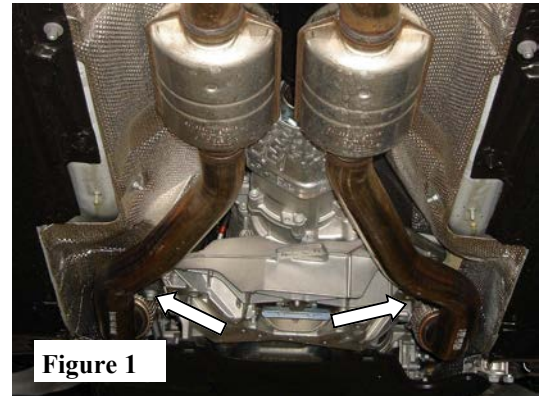

Figure 1
2. Loosen and remove hardware on front pipe flanges. Keep hardware for installation of your new Borla cat-back. (See Fig. 1).